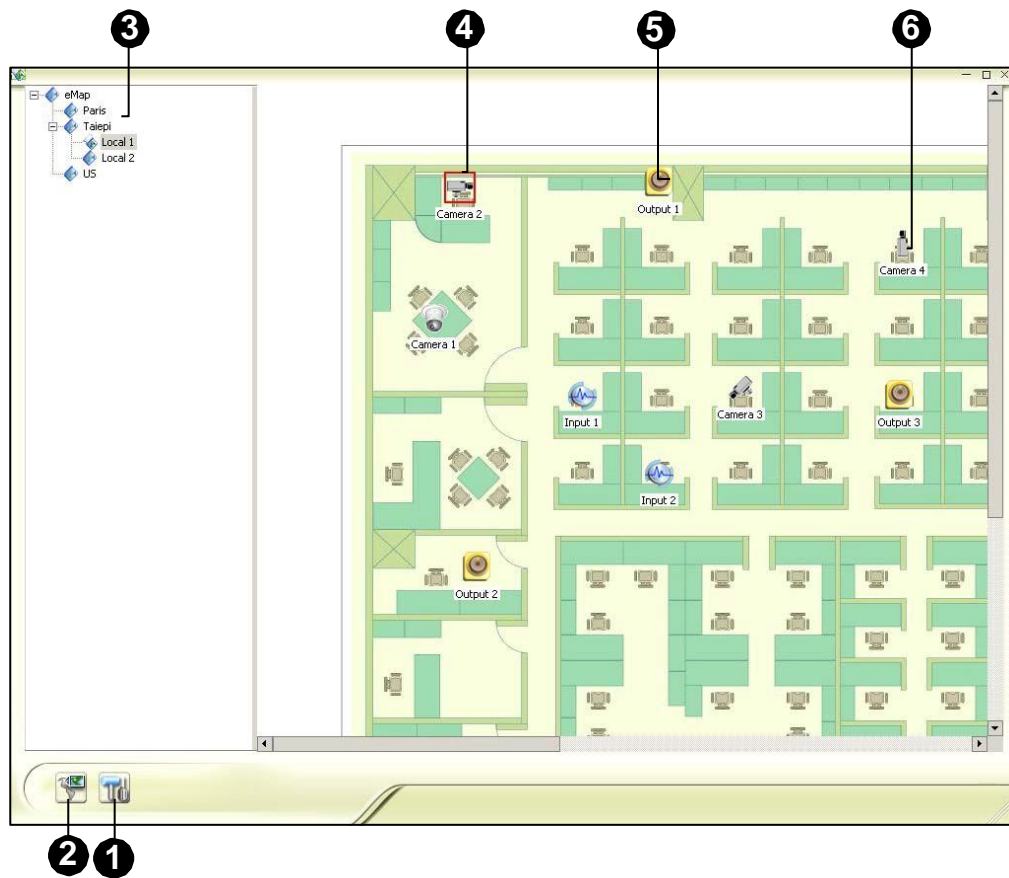

Figure 9-9 The E-Map Viewer Window
1. Click the **Popup Settings** button (No.1, Figure 9-9).
3. Click the **Toggle Popup** button (No.2, Figure 9-9) to enable the function.